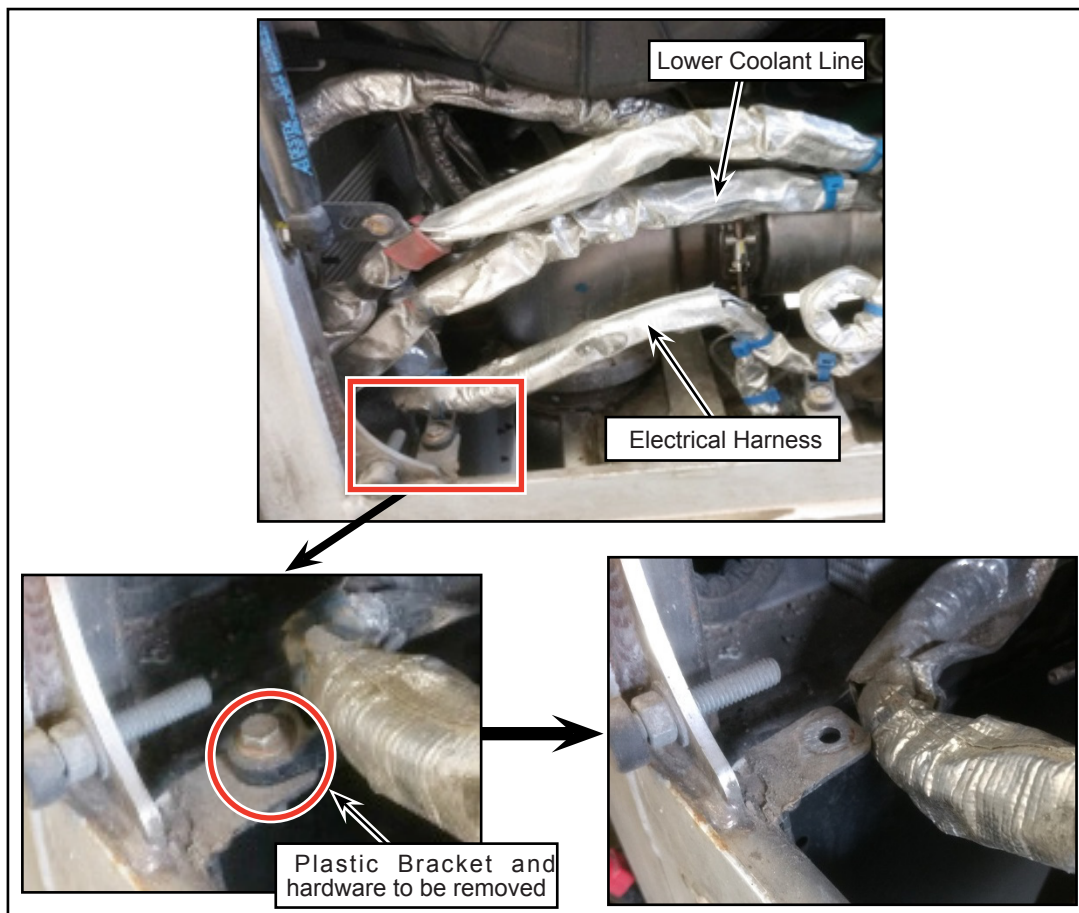

Figure 10 - Removal of Plastic Bracket and Hardware
1.13. Remove and retain the existing plastic bracket and hardware from its original position shown (see Figure 10).